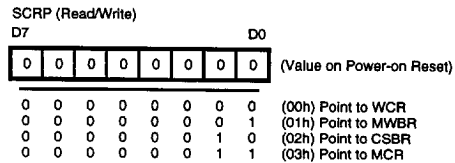

Figure 24. System Control Register Pointer
**System Control Register Pointer (SCRIP, I/O address EEh).** This register stores the pointer to access System Control Registers (WCR, MWBR, CSBR and MCR). This register is Read/Write and it holds the pointer value until modified. Upon Power-On Reset, all bits are cleared to zero. The pointer value, other than 00h to 03h is reserved and is not written. Upon Power-On Reset, this register is set to "00h" (Figure 24).